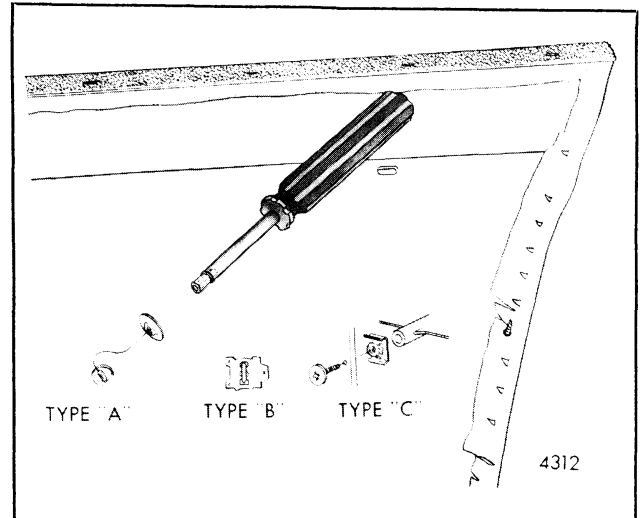

Fig. 5-16-Door Trim Pad Molding and Applique Removal
Door trim moldings and appliques are secured from the outboard side of the door trim panel with several types of metal fasteners (Fig. 5-16) or bend-over tabs.
2. For removal of type "A" fasteners, Figure 5-16, use tool J- 23554 or equivalent.
3. To remove type "B" fasteners, Figure 5-16, carefully pry-up on fastener until there is sufficient working space to insert wire cutter; then, cut fastener and discard.
4. For removal of type "C" fasteners, Figure 5-16, use a cross head type screwdriver.